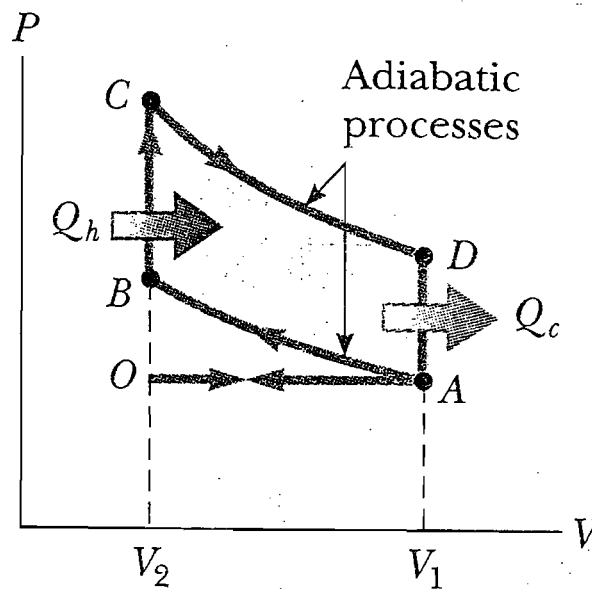

Fig. 2
- (a) Fig. 2 is a schematic flow diagram of a four-stroke internal combustion engine. Show, by mathematical analysis, that the thermal efficiency,  $\eta$  of the engine is given by: